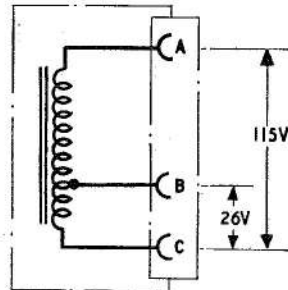

Fig. 2. Circuit diagram
5. The leads from the winding are brought out to a 3-pole Mk. 4 miniature socket (*Inter. Ser. Ref. No. Z.560800*). A circuit diagram is given in fig. 2.